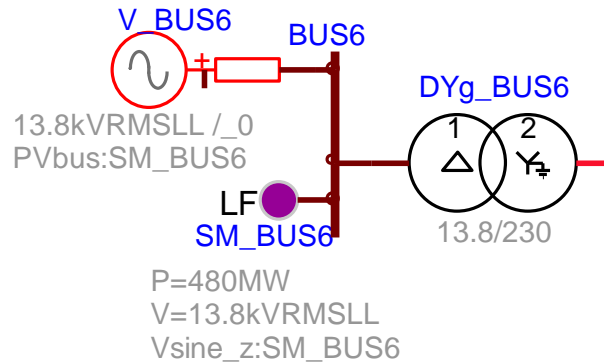

Figure 1-4 Example of adjacent (paired) LF-device and non-LF-device
In Figure 1-4 V_BUS6 is paired with SM_BUS6. V_BUS6 points (“Load-Flow solution device” field) to SM_BUS6. V_BUS6 searches the “Load-Flow solution data file” to match the name SM_BUS6 and retrieves its voltage phasors behind the Thevenin impedance. A dropdown menu “Load-Flow solution device” in V_BUS6 data forms is listing a blank string followed only by the LF-devices attached to its terminals.
The following matching options are available in Figure 1-4:
- ❑ Match Load-Flow device by caller device name if no other selection: A caller (parent) device will be matched to a load-flow device using its name if there is no other selection on the parent device data forms. This option is not applicable for some devices, such as the "asynchronous machine". In the example of Figure 1-4 the name V_BUS6 can be changed to SM_BUS6 and its "Load-Flow solution device" dropdown must point to a blank string. Although this option is less straightforward and therefore not recommended, it can become useful when the parent device needs to refer to an LF-device not attached to its bus.